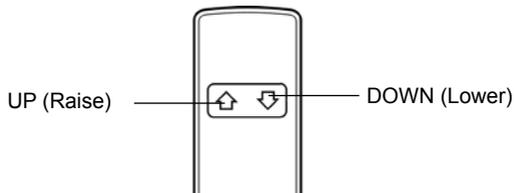

Fig. 3
7. Push the UP and DOWN buttons on the hand control and confirm the boom will raise and lower accordingly (Fig. 3).